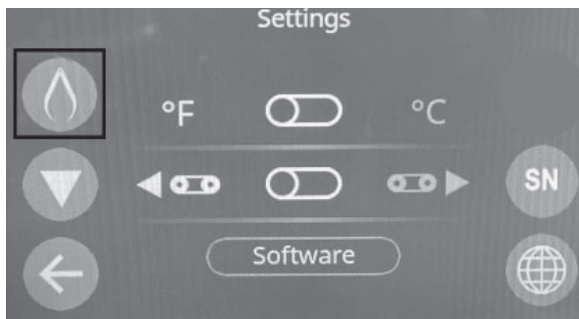

Figure 33
- Temperature Calibration – From the settings main menu click the temperature calibration button, highlighted below in (Figure 33).